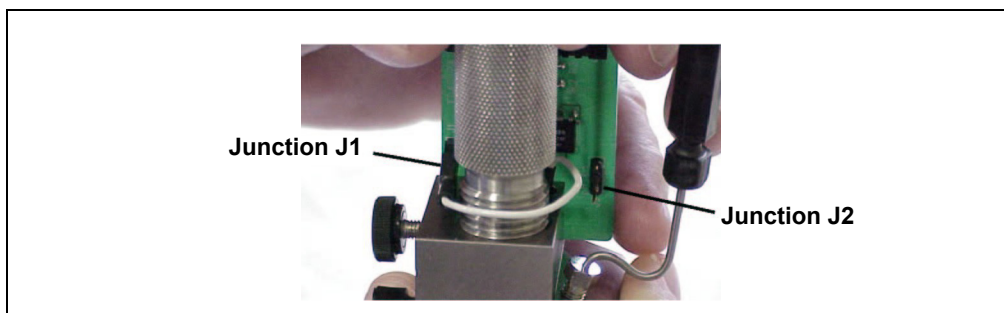

Figure B-13. Reference Electrode Electronics Card Junctions J1 and J2
9. Connect the J2 connector to junction J2 on the electronics card and verify that the white working electrode lead wire is connected to junction J1 (see Figure B-13).